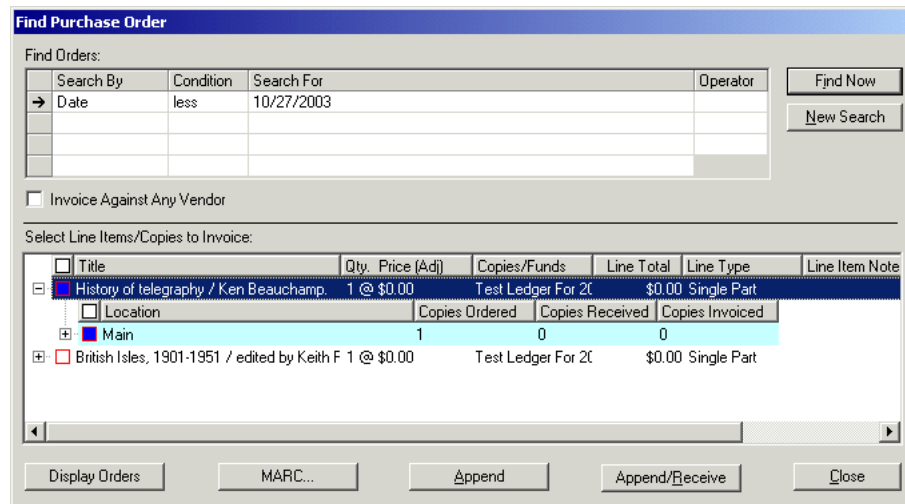

Figure 13-5. Find Purchase Order dialog box - MARC button displayed
- The **MARC** button on the **Find Purchase Order** dialog box (Figure 13-5). The **Find Purchase Order** dialog box is used when searching for purchase orders to append to an invoice. See Adding Line Items to an Invoice on page 12-18 for more information.